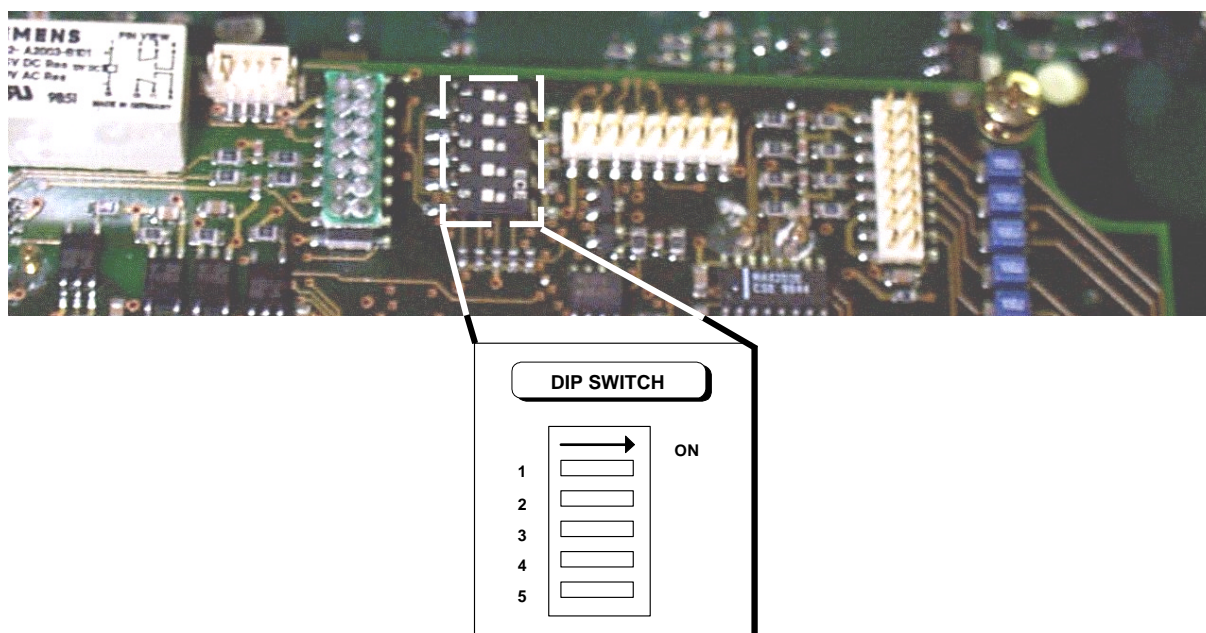

Figure 4 - DX8200 Multidrop Address selection
2. Position the switches as desired, referring to Figure 4.